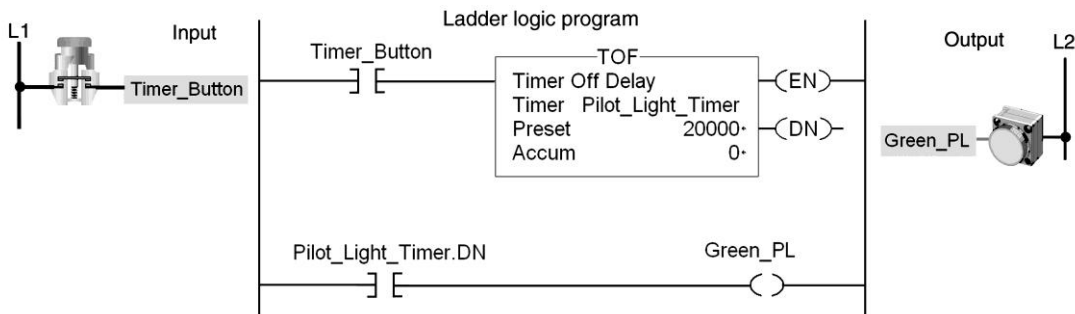

Figure 15-29 Pilot light TOF timer program for assignment 5.
- 5) The pilot light TOF timer program of Figure 15-29 is described in the text. Prepare an I/O connection diagram and ladder logic program that will simulate its operation. Utilize field devices found on your ControlLogix installation. Enter the program into the controller, and monitor its operation.